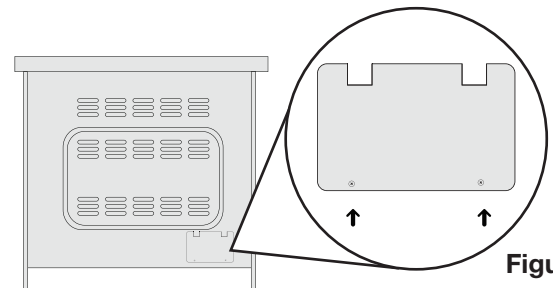

Figure 30
- 1 Remove plate from the rear end of the Range. Unscrew the two screws and set aside. (See Figure 30)